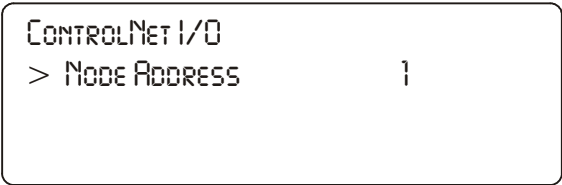

FIG. 134: CONTROLNET I/O MENU/SELECTING THE NODE ADDRESS
- Step 5. Press the Enter button. The ControlNet I/O Menu appears. (See Fig. 134)
- Step 6. Press the left or right arrow buttons to select the node address of this instrument. (See Fig. 134)